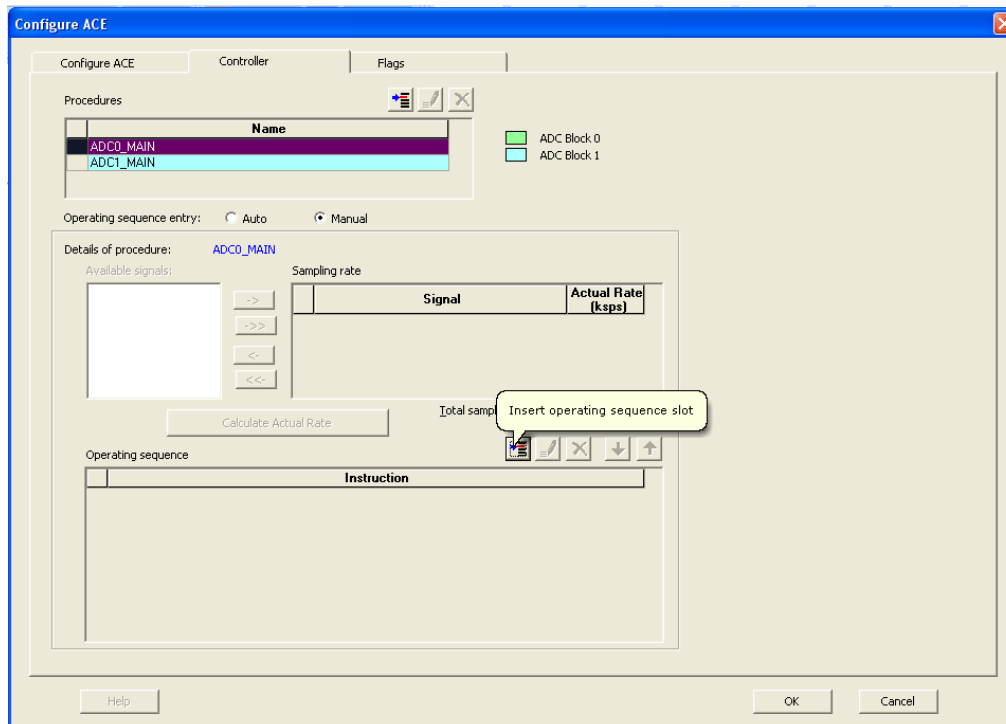

Figure 10 · Insert Operating Sequence Slot
7. Click the **Insert operating sequence slot**, highlighted in Figure 10 . .